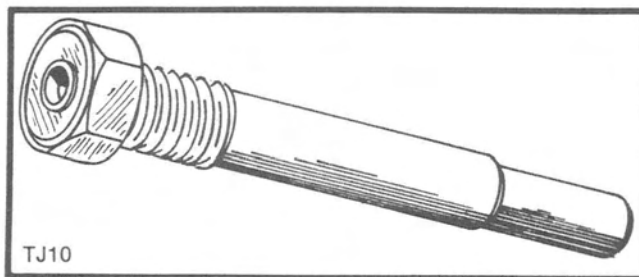

Figure 10
2. To remove the drive clutch a special tool (shaped like a bolt) must be inserted in and tightened. Figure 10